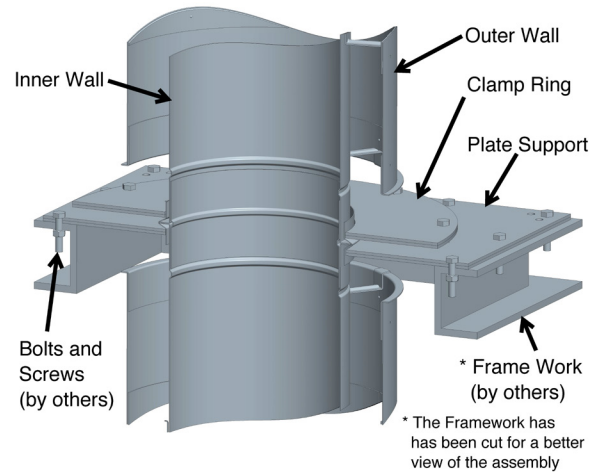
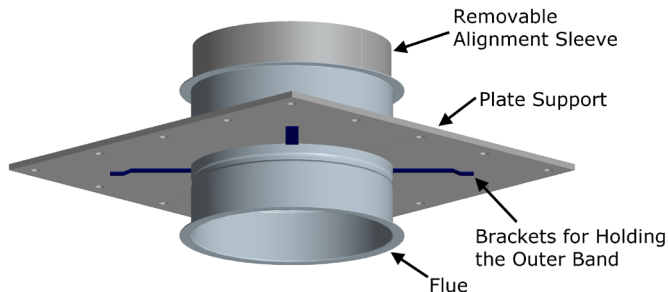

Figure 41a - Anchor Plate on Framing
Figure 43 - Anchor Plate with Length (APL)
The APL is an anchor plate integrated on a length. It cannot be used as a fixed support for vertical or horizontal installation because the anchor plate is free to move on the longitudinal axis of the length. Refer to the Anchor Plate (AP) for all the warnings / details, except for the installation. See Figure 43 for detail of APL.
CAUTION: Small brackets must be on the bottom side so these can hold the outer band (BSE) against the support plates and to make sure the anchor plate is positioned in the middle of the inner wall when installed. See Figure 43 to 46.
NOTE: In the case of an Anchor Plate (AP), refer to Figure 41a and 41b for installation. For the Anchor Plate with Length (APL), Refer to a Figure 43 to 46. If it is not possible to suspend the Tee, it may be supported from the base (See Table 5) for maximum height for a base Supported Tee. When this type of support is necessary, access to the drain cap may be hindered. A structural steel stand can be used to allow access to the Tee Cap (TC) or Drain Tee Cap (DTC).
NOTE: In the case of an Anchor Plate (AP), refer to Figure 41a and 41b for installation.